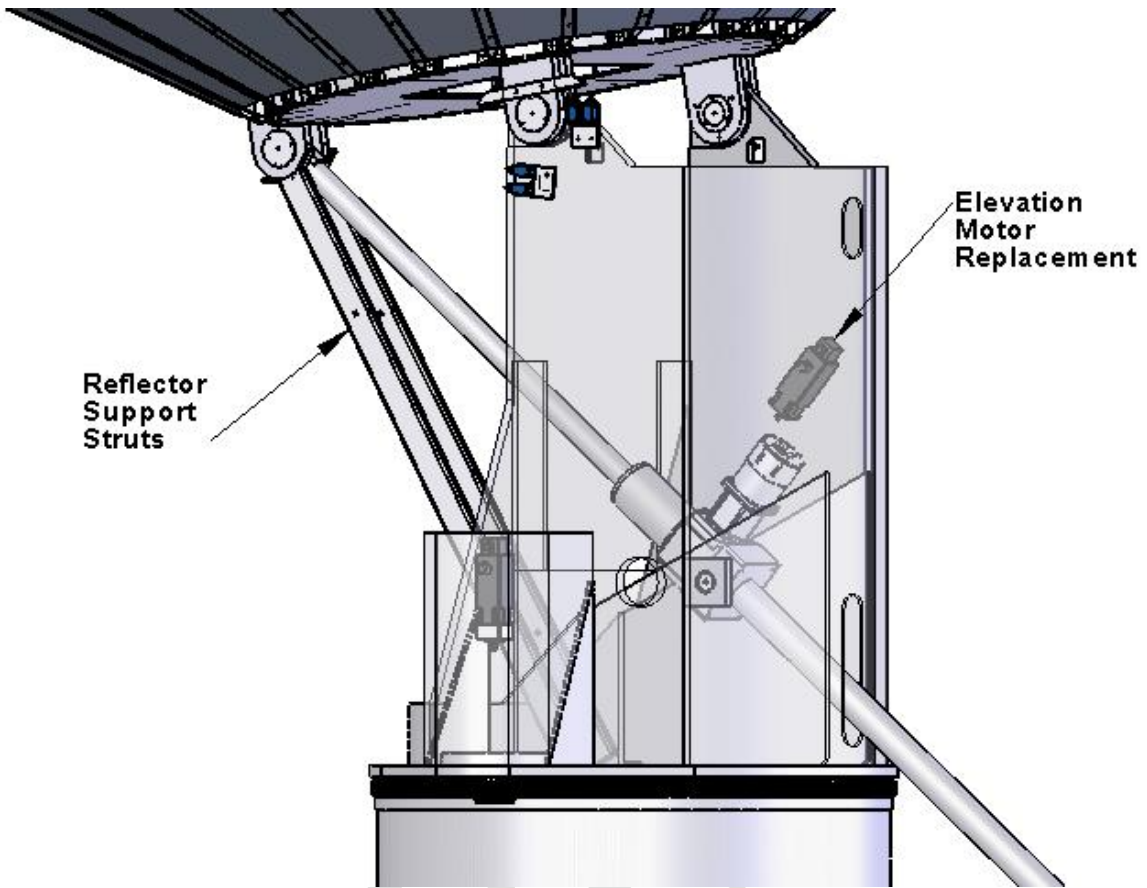

FIGURE 11
2. Install reflector support struts to support the weight the antenna while the brake is being serviced. (see FIGURE 11 and read section 4.5 #2)